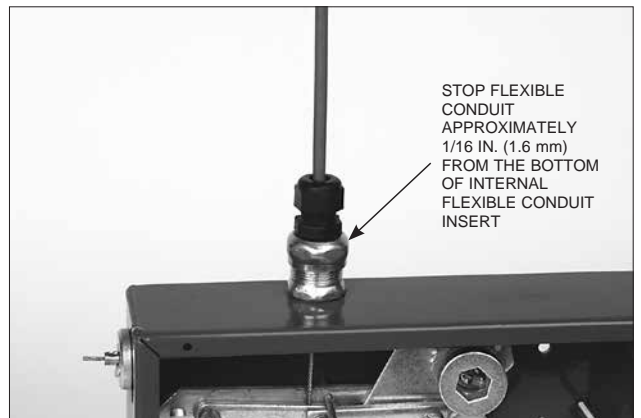

FIGURE 4-47
9. Slide the flexible conduit into the strain relief until it is approximately 1/16 in. (1.6 mm) from the bottom of the flexible conduit insert. See Figure 4-47.